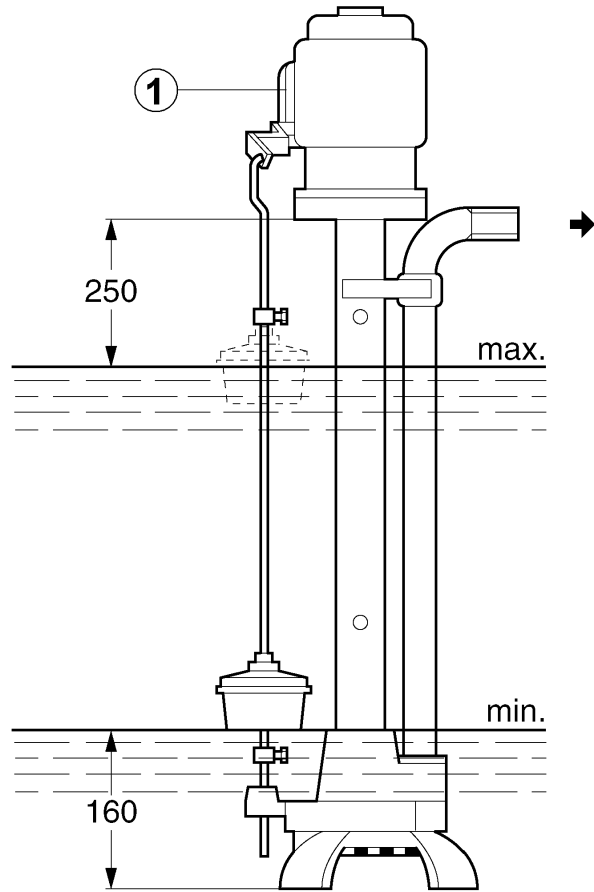

Fig. 1
VC 32: switch on motor terminal box (Fig. 1, pos. 1)
5.1 Assembly (Fig. 1, 2)
- The water level may not be reduced below the minimum immersion depth of the pump housing. The level control must be set at the minimum level: Fig. 1/2.